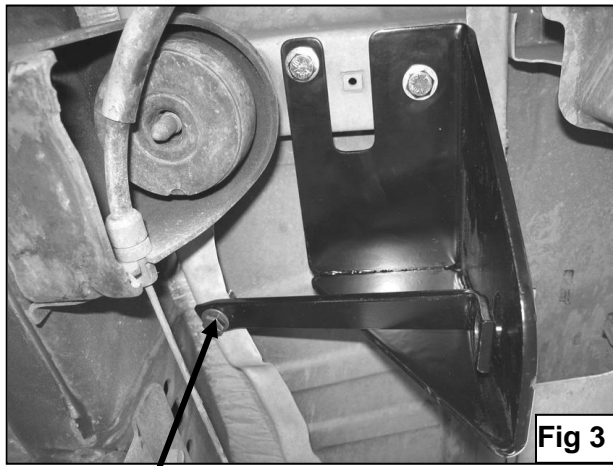

Fig 3
4. On the rear side of the driver front body mount there is a factory hole in the floor panel located by the frame rail, loosely attach the straight end of the driver side front Support Bracket to this factory hole using the included (1) 10mm x 30mm Hex Head Bolt, (1) 10mm Lock Washer, (1) 10mm Hex Nut, and (2) 10mm Flat Washers (**Figure 3**).